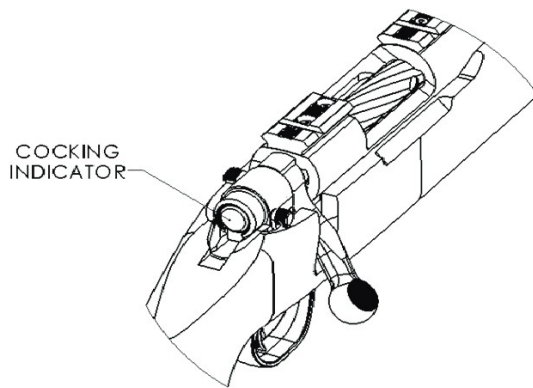
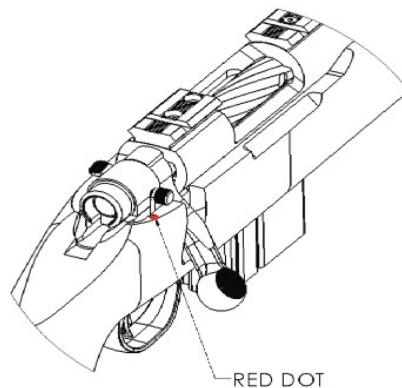

Figure 4
Figure 5
C. Push the bolt fully forward and rotate the bolt handle clockwise and down to the “closed bolt” position. Observe the end of the bolt. The round flat end of the striker is the cocking indicator. When it is flush with the outside ring of the bolt sleeve, it indicates the firearm is cocked and will fire if the firearm is loaded (Fig. 4), the safety lever is moved to the “OFF” (FIRE) position, and the trigger is pulled. When the firearm is fired, the cocking indicator will snap forward and be recessed approximately $\frac{3}{16}$ ” from the edge of the bolt sleeve (Fig. 5).